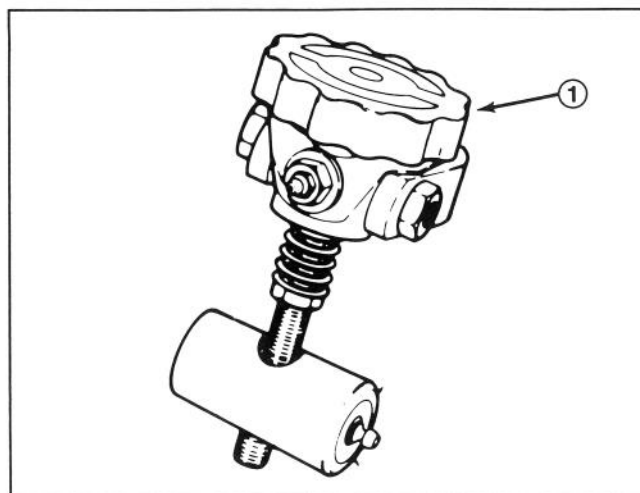
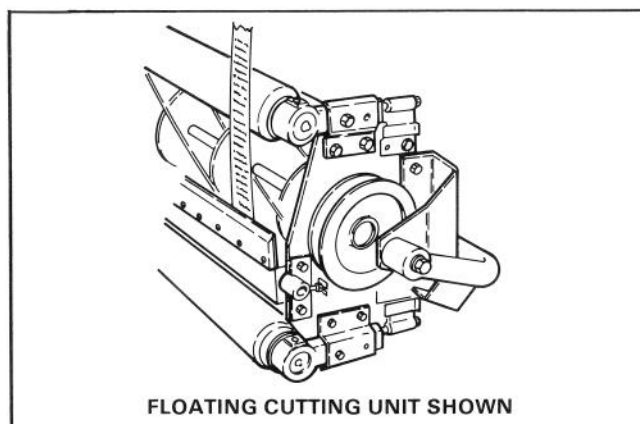

Figure 7
Figure 8
1. Make sure reel contact is removed by turning bedknife adjustment knob counterclockwise (Fig. 7). Tip cutting unit to gain access to reel and bedknife (Fig. 8).
rotating reel into bedknife, turn bedknife adjusting knob clockwise, one click at a time until paper is pinched lightly, which results in a slight drag when paper is pulled (Fig. 8).